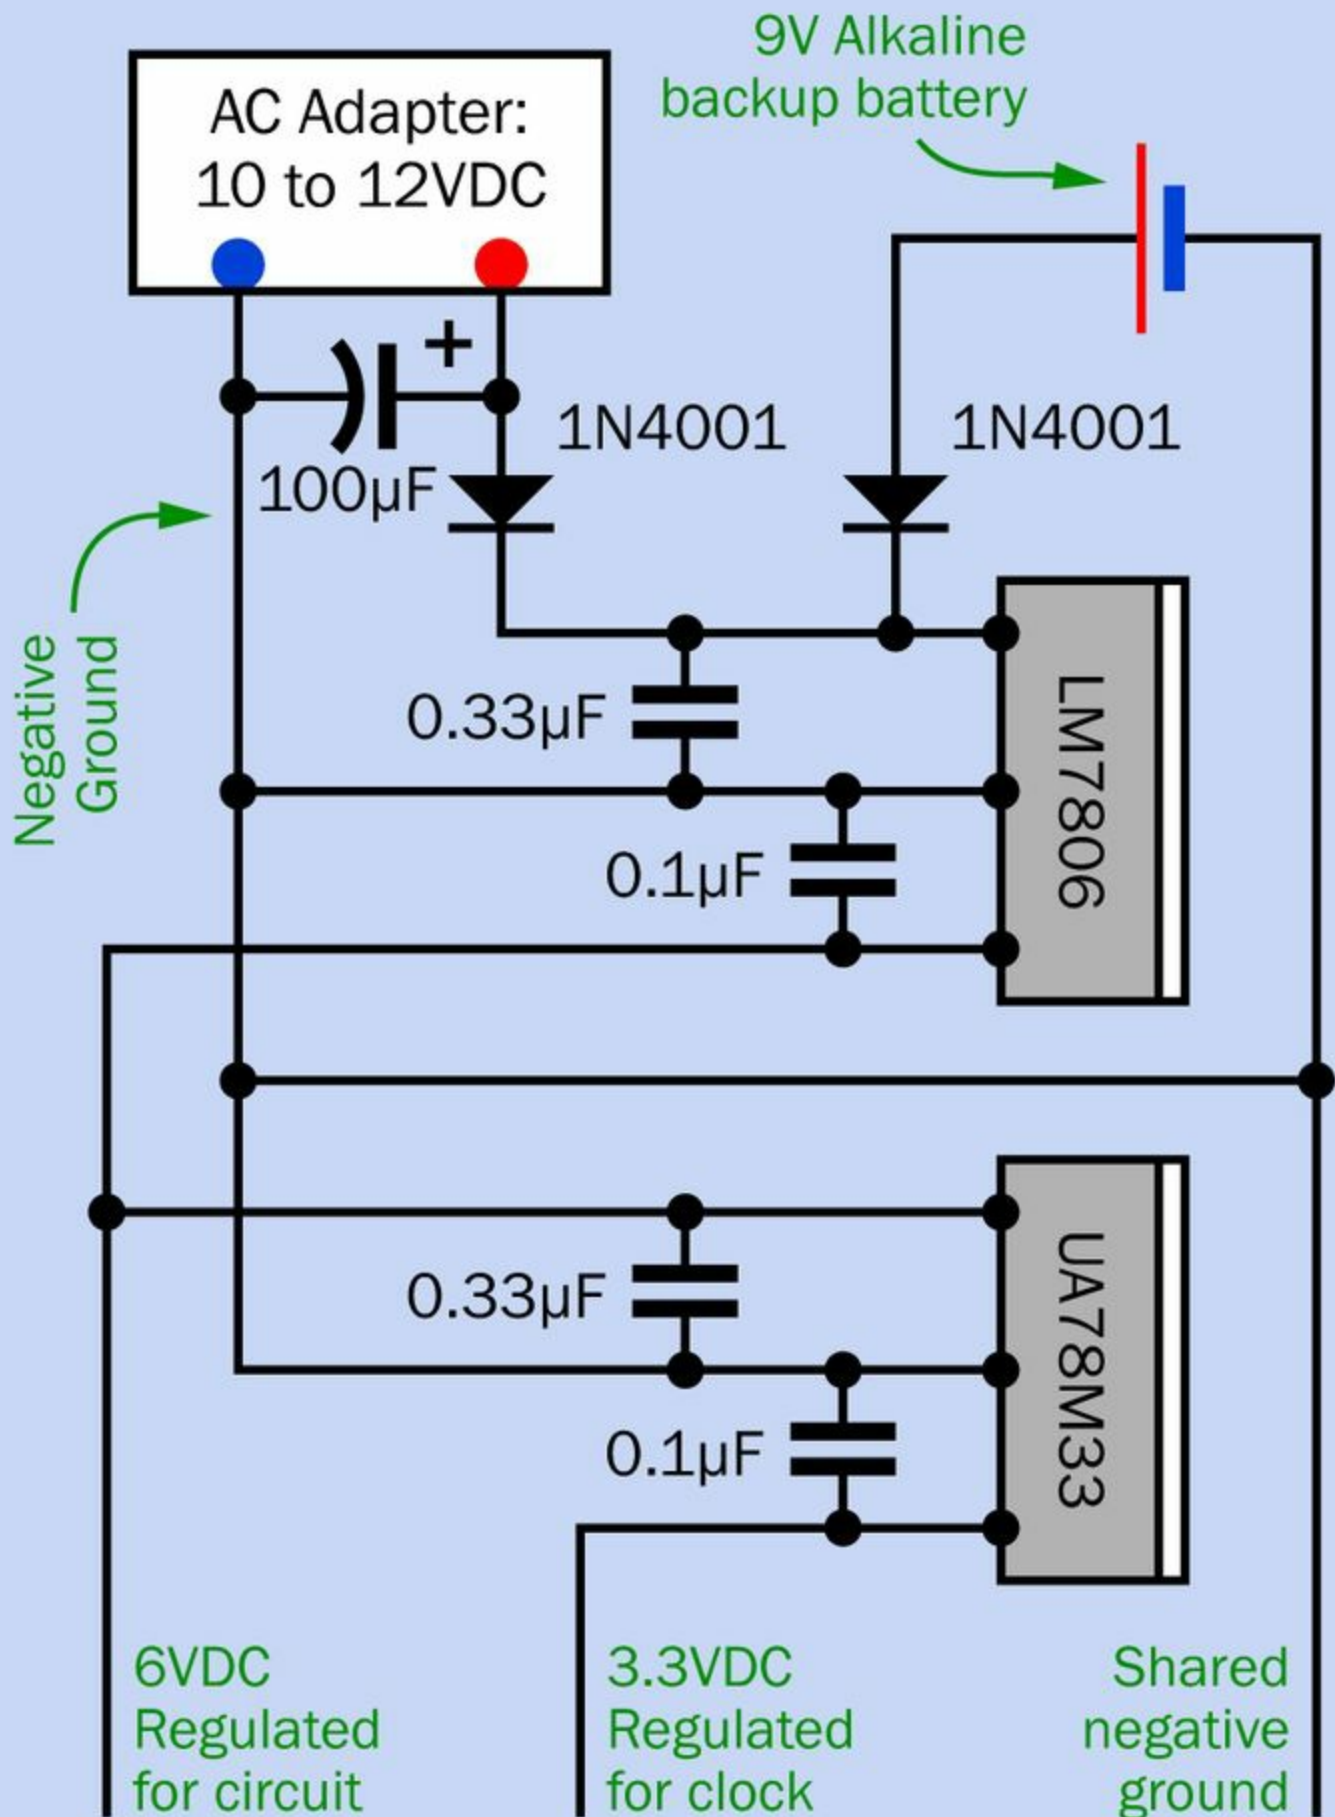

Figure 7-17. Enhancements to the lamp switcher can include power from an AC adapter, 9V battery backup, and a 3.3V
**Figure 7-17** shows how it can be done. So long as there is at least 10V going to the 6V voltage regulator, the 9V battery has no load on it and should remain good for at least a couple of years. (Use an alkaline battery, not a rechargeable battery. Rechargeables don’t keep their charge for very long.) The battery might not react well if the AC adapter tries to push current into it, so a diode is put in the way. If the AC power supply fails, the battery takes over, and a second diode prevents it from wasting energy by trying to pass current through the output end of the AC adapter.
You can get rid of the clock batteries by adding a 3.3V voltage regulator to your breadboard, as shown in **Figure 7-17**. Its 3.3V output will be acceptable to the clock, as fresh batteries provide almost this much voltage. The regulator will connect with the wires labelled “Alarm ground” and “Alarm positive 3V” in the schematic. The wires that run to the clock will remain in place, because now they will be sending power to the clock instead of taking power from it.
The input to the 3.3V regulator can come from your existing 6VDC power supply. The ground must be the same, but you must be very careful to keep the output separate from the 6V bus. Also, you have to include the usual 0.1 $\mu$ F and 0.33 $\mu$ F capacitors to guarantee an accurate output from the regulator. See **Figure 7-17** for details.